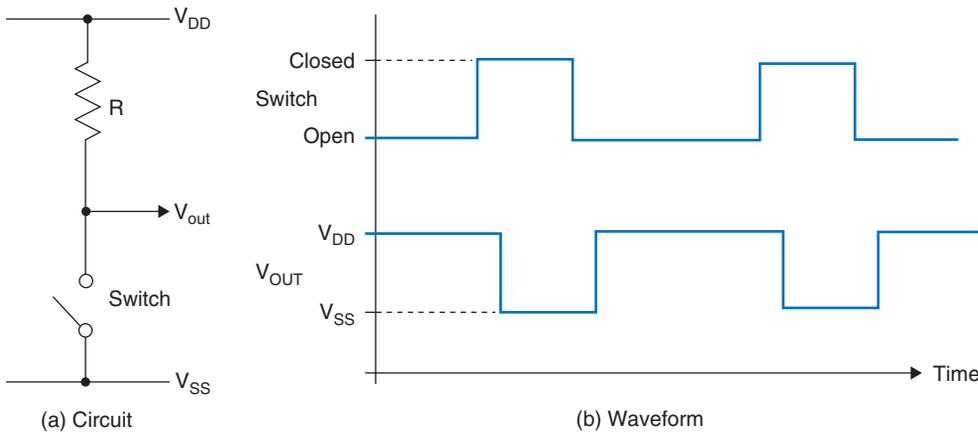

FIGURE 4.10
To illustrate the application of a transistor as a switch, first consider a simple circuit comprising a resistor and a real switch (Figure 4.10).
When the switch is OPEN (OFF), V_{OUT} is connected via the resistor to V_{DD} ; when the switch is CLOSED (ON), V_{OUT} is connected via the switch directly to V_{SS} . In this latter case, V_{OUT} takes the value V_{SS} because, like people, electricity takes the path of least resistance, and the resistance to V_{SS} through the closed switch is far less than the resistance to V_{DD} through the resistor. Observe that the waveforms in Figure 4.10 show a delay between the switch operating and V_{OUT} responding. Although this delay is extremely small, it is important to note that there will always be some elements of delay in any physical system.